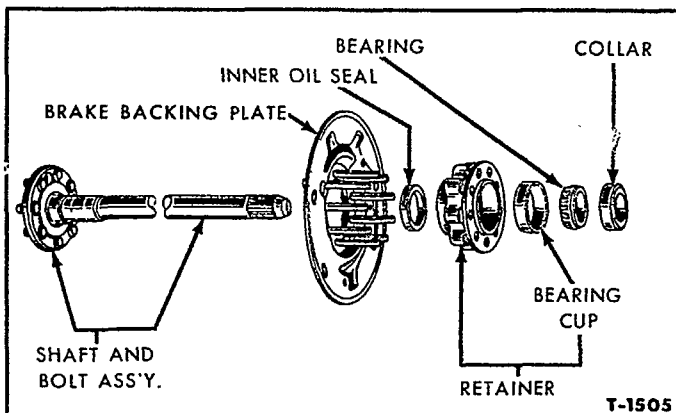

Figure 5—Axle Shaft Assembly
- Remove the puller from the retainer and clamp the retainer in a soft jawed vise. Pull the axle shaft oil seal and bearing cup from the retainer with a Slide Hammer and Puller 943. The complete axle shaft assembly is shown in Figure 5.